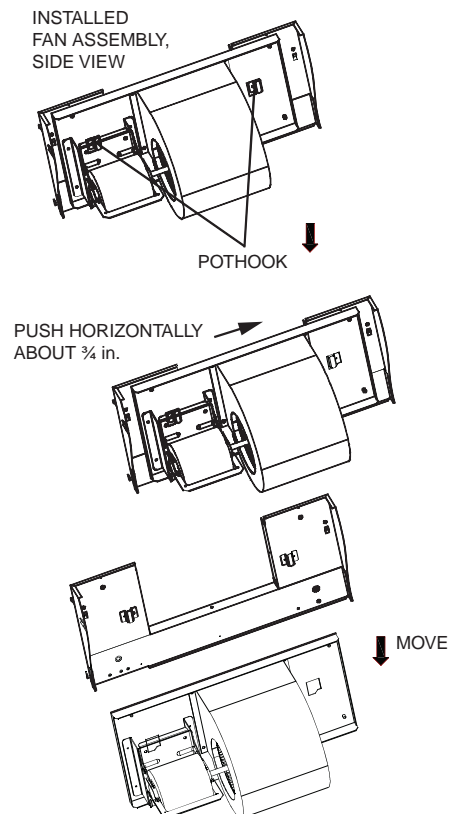

Fig. 18 — Detaching Fan Motor Assembly from Front Panel (Unit Sizes 024-036)
5. To separate the fan motor assembly from the front panel, push the assembly horizontally about $\frac{3}{4}$ in. as shown in Fig. 18.
6. Slightly lift and push the fan motor assembly downwards to detach it from the front panel. See Fig. 18.